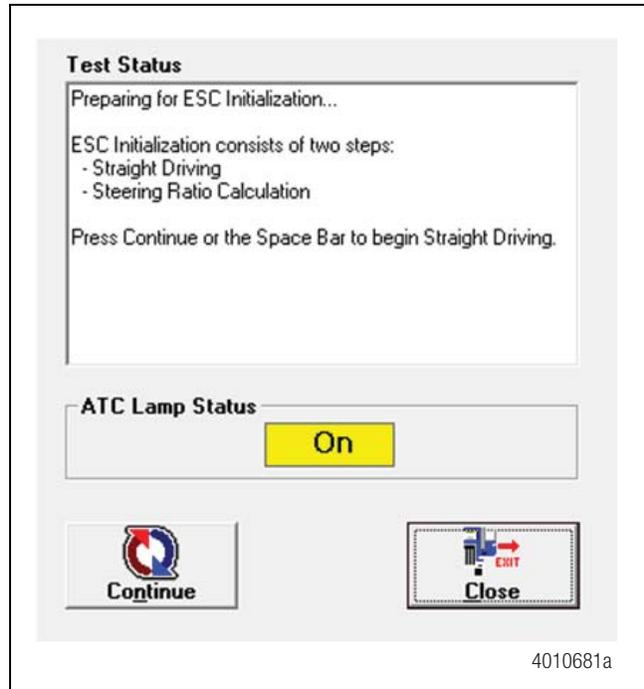

Figure 9.13
Check the message box that appears. Press the space bar or click the "Continue" button when ready to proceed. Figure 9.13. The ATC lamp will start blinking to inform driver ECU is in learning mode.
**Tip:** Carefully follow the instructions that appear in the message box. Figure 9.13. Once the ESC initialization is started, the messages will automatically change as the requirements are met. **DO NOT** click the "continue" button again as this may cause the process to fail. The ESC Initialization procedure requires the vehicle to be driven.